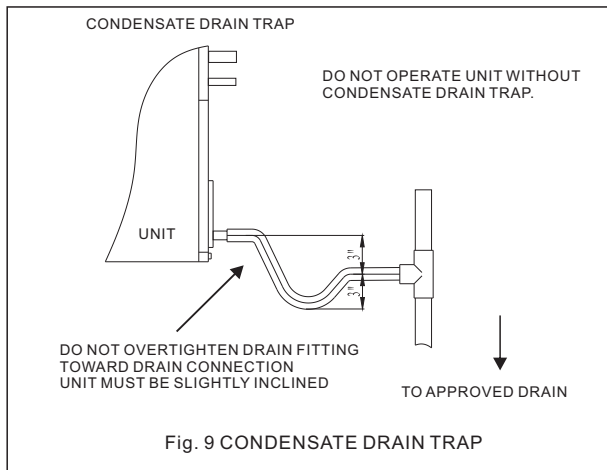

Fig. 9 CONDENSATE DRAIN TRAP
- Make sure unit is level or pitched slightly toward primary drain connection so that water will drain completely from the pan. (See Fig. 9)
- Make provisions for disconnecting and cleaning of the primary drain line should it become necessary. Install a 3 inch trap in the primary drain line as close to the unit as possible. Make sure that the top of the trap is below connection to the drain pan to allow complete drainage of pan (See Fig. 9).